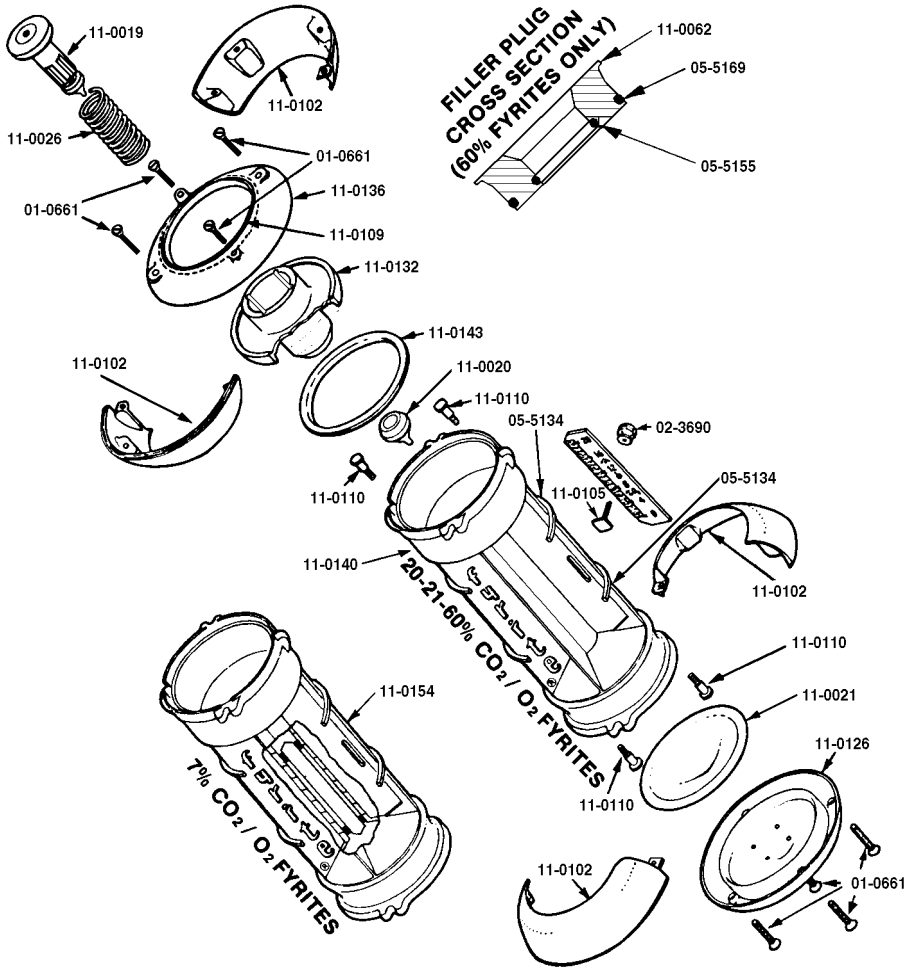

Figure 33. FYRITE parts breakout.
**CO2 / O2 FYRITEs:** Make certain that Top Cap Ring Gasket (11-0109, Figure 33) is in place between metal Top Cap Ring and plastic Top Cap. Draw the 4 machine screws down with light screwdriver force.
## 6.6 Replacing FYRITE Plastic and Rubber Parts (Refer to Illustrated Parts List FYRITE CO2/O2 [Section 7.0 and Fig. 33])
**(Refer to Figure 33 FYRITE Parts Breakout)**